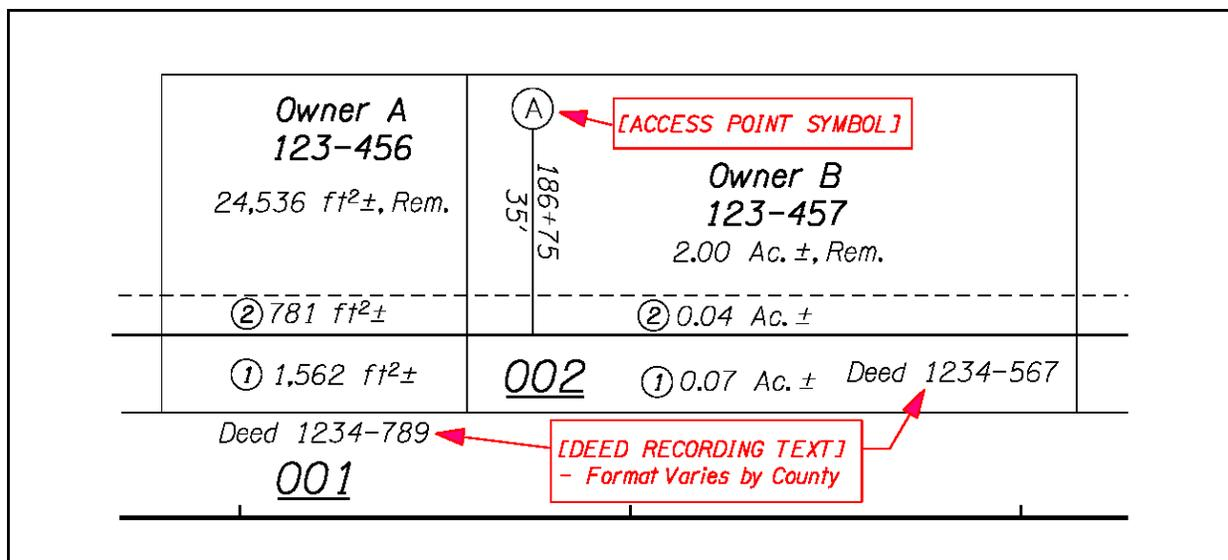

Figure 4-11
10. The preference for placement of the added text is first inside the fee parcel (Figure 4-11, File 002). If there is not sufficient room, place the text in the existing right of way as shown for file 001.
11. If an Access Reservation has been granted, show an access point symbol at the respective station. The access point symbol is drafted perpendicular to center line with the tail of the leader on the fee take line. It will show the station and width of the reservation. To place the access point symbol, from the Right of Way Drafting menu, choose Proposed R/W > Access Point Symbol. (See Figure 4-11 for placement of access point symbol, station and width notations.)